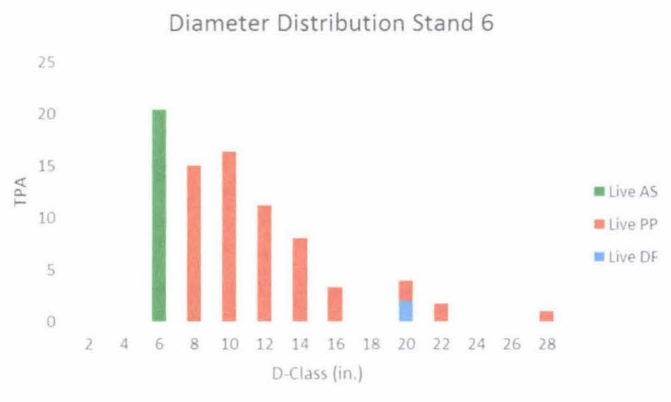
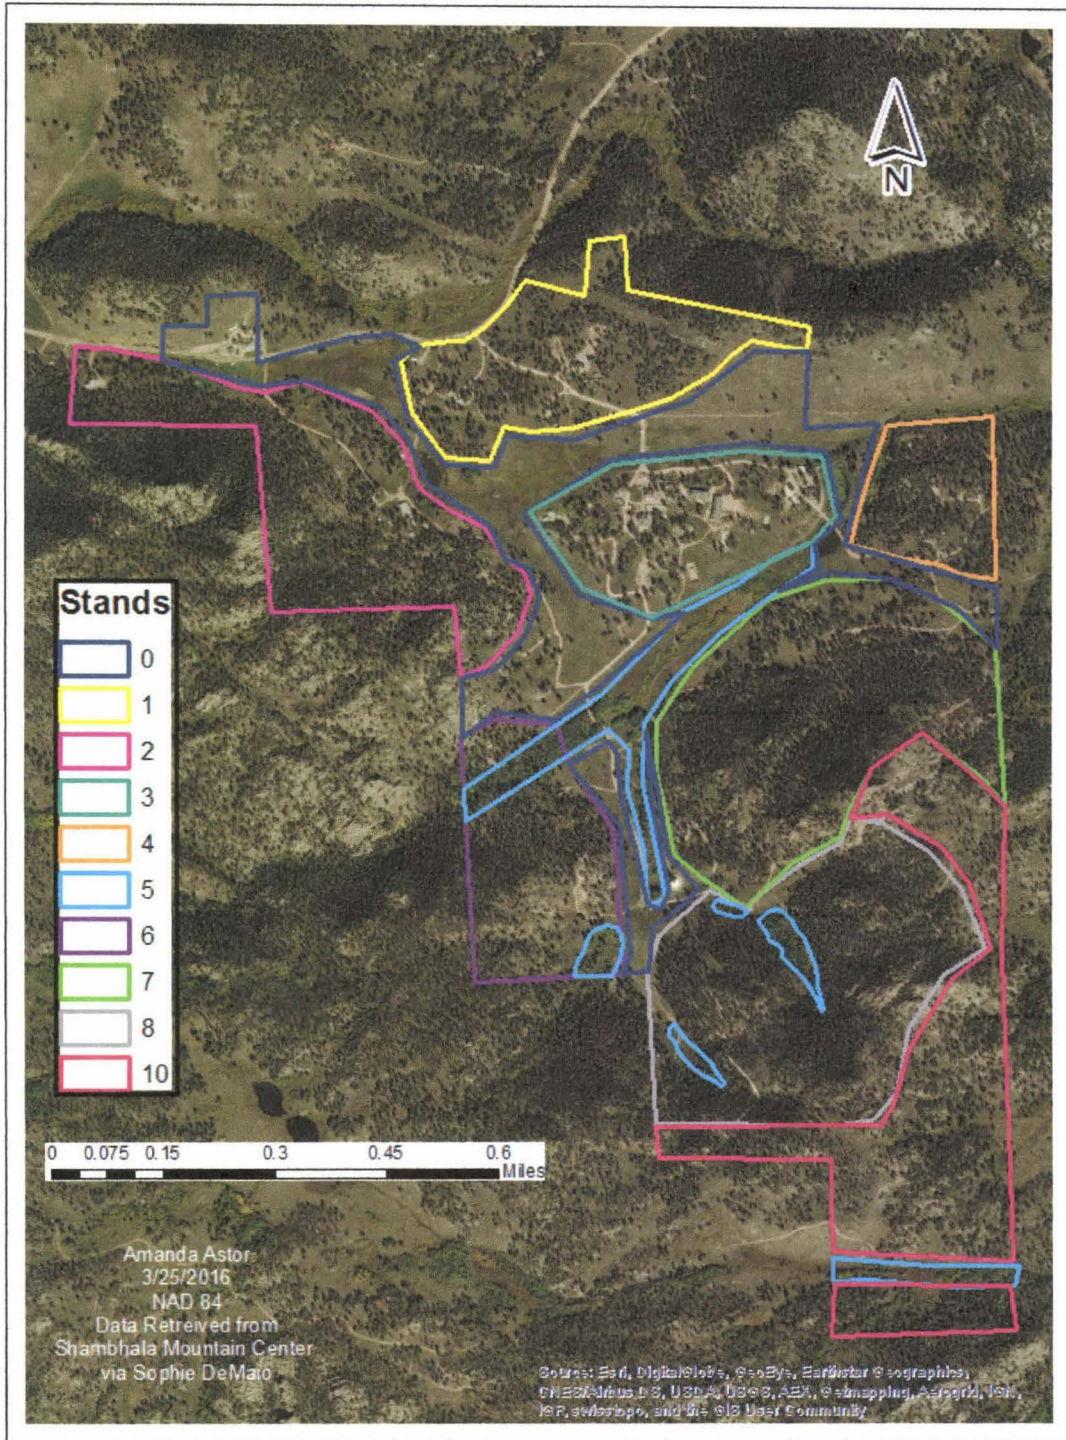
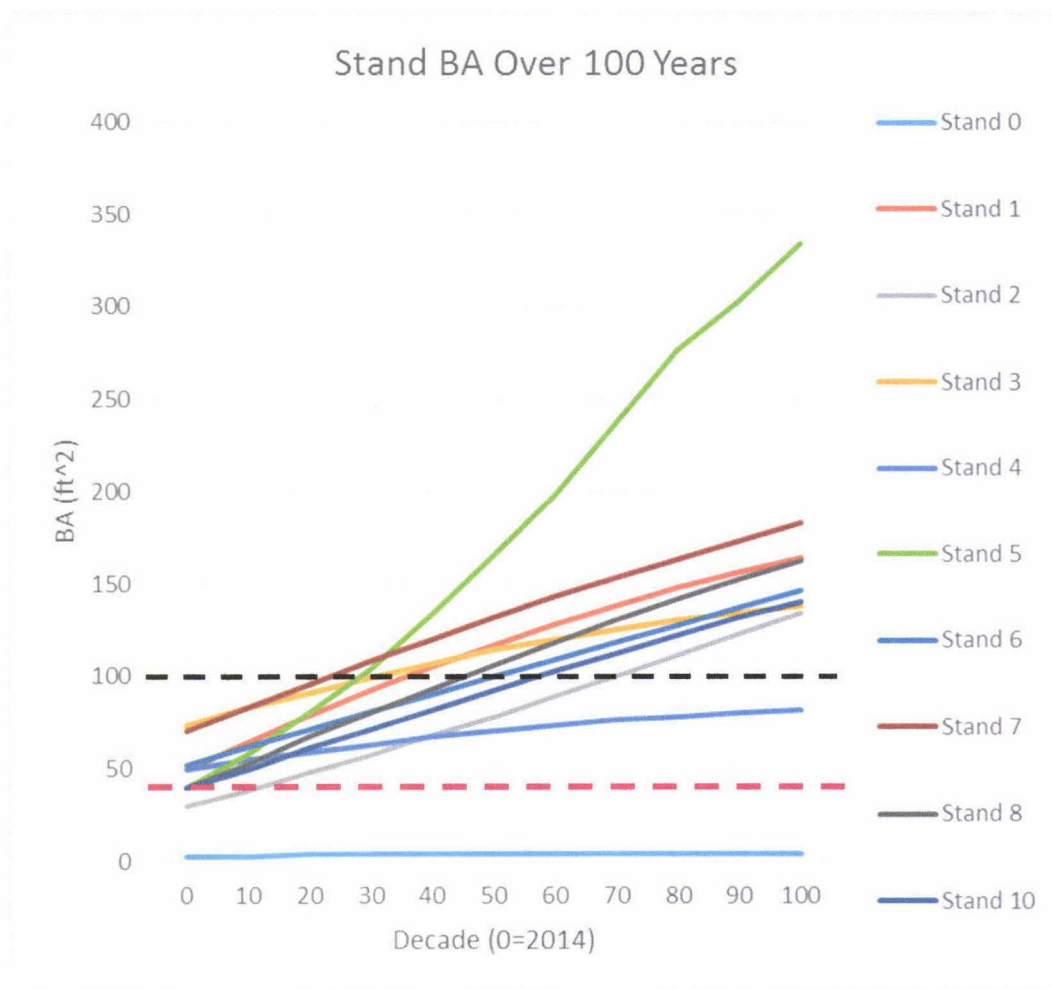

Figure 7 Diameter Distribution of Stand 6
Figure 11 Stand Reference Map
Figure 1 BA Over Time
Stand 6 is 40 acres. It is located along the western edge of the property. It occurs on a steep slope with some rock outcroppings in the southern half of the stand. It consists predominantly of ponderosa pine with a few legacy Douglas-fir trees and areas of small aspen trees (Figure 7, Figure 11). It has a fairly low density of 81 TPA (Table 1).
Shambhala Mountain Center consists of 608.5 acres just southeast of Redfeather Lakes, CO. Its property has been broken into 10 distinct stands. A stand map has been provided at the end of this document for reference (Figure 11). In general, the forest looks healthy with little to no signs of dwarf mistletoe and mountain pine beetle, although no formal survey has been conducted to verify this. Mitigation has been done in the past years to mitigate fire risk by maintaining fairly low stand densities and removal of ladder fuels. The forest's projected basal area (BA) growth, as modeled in FVS, is shown in Figure 1. The preferred range for BA is between 40 ft² and 100 ft² for Front Range ponderosa pine forests. When a ponderosa forest in the Front Range exceeds a BA of 100 ft², the fire risk increases, tree vigor decreases, and aesthetics tend to trend downwards as well. When the BA is below 40 ft², wildlife habitat is compromised, there is a higher chance of windthrow events (usually after thinning to a small BA), and overall stand vigor is less than desirable. Each stand is described individually through the rest of this section.